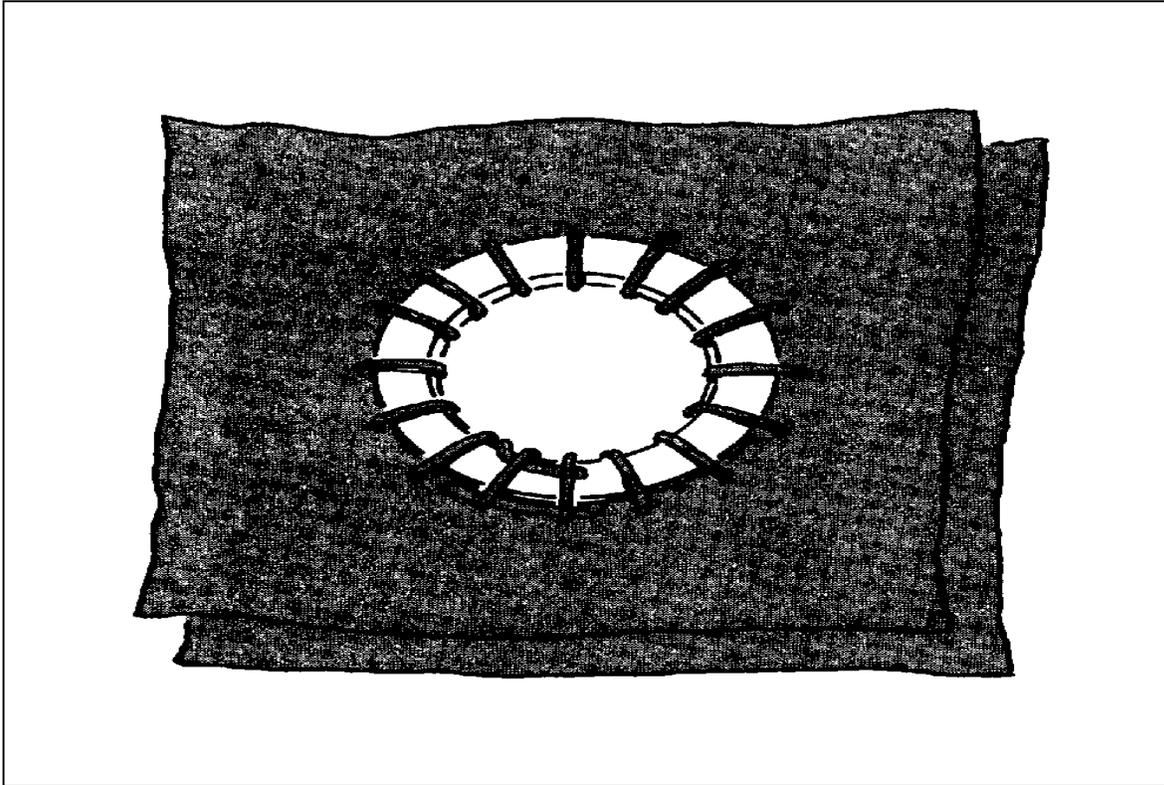

Figure 12-6. Series of round stitches around a grommet
(5) Thread the needle with four strands of waxed thread, and knot the ends. Twist the strands together, rewax the thread, and cut off the knot.
(6) Stick the needle into one of the needle holes, and draw the thread through the hole until a 1/2-inch end is left.
(7) Hold the 1/2-inch length of thread down against the canvas and the edge of the ring with the free end pointing clockwise.
(8) Bring the needle up through the grommet hole, over the ring and the 1/2-inch end, and stick it down into the next needle hole.
(9) Continue stitching clockwise, making a series of round stitches around the grommet hole (Figure 12-6).
(10) Finish the stitching by sticking the needle under the last two stitches and pulling the thread up tightly.
(11) Leave free a 1/2-inch length of thread, and cut the thread.
(12) Flatten the stitching by pushing the fid into the grommet hole, first from one side and then the other.